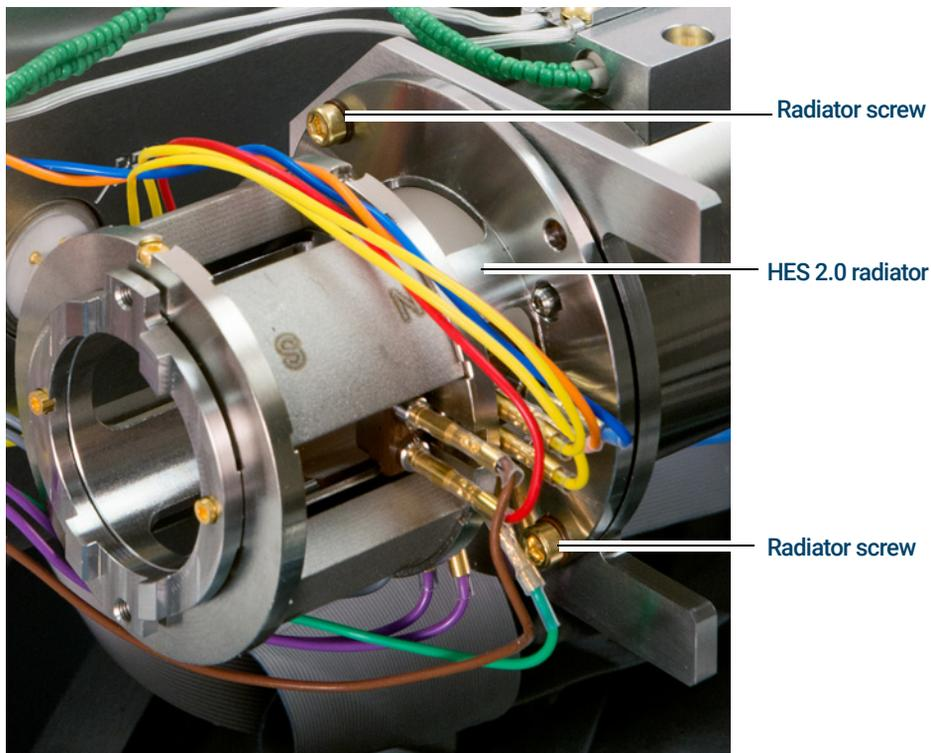

Figure 82. Securing the EI HES 2.0 radiator
- 1 Place the radiator over the guide pins on the analyzer support and use a T10 Torx screwdriver to secure it using the (2) M3 × 12 gold plated screws (G7002-20110). (See **Figure 82** on page 247.)